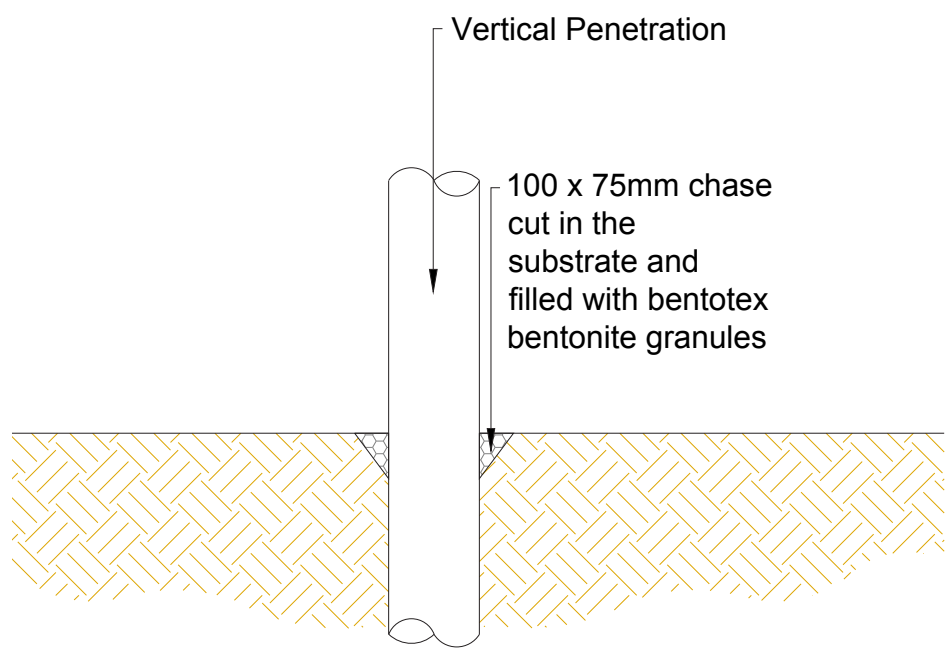

Figure 5a. Cross-section of a vertical penetration
- 8.5 Vertical penetrations are prepared by notching into the subgrade as shown in Figure 5a. The penetration is completed with two separate pieces of GCL as shown in Figure 5b. A secondary collar is optional in this case.